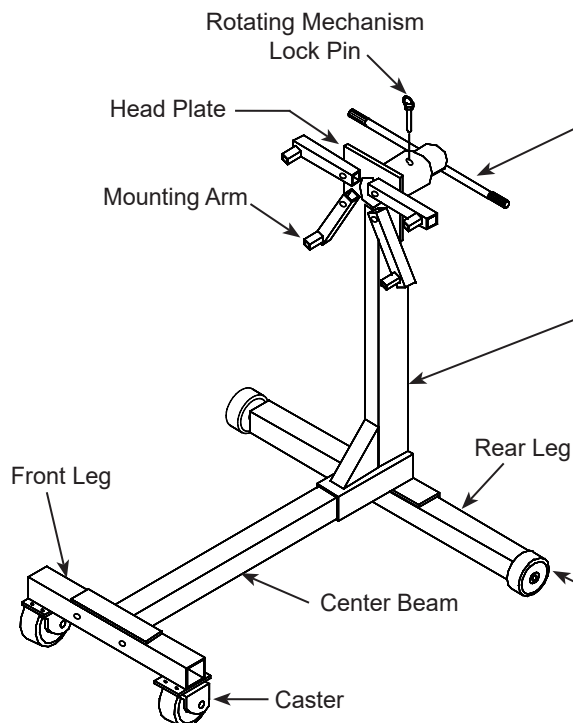

Figure 1 - Model BH5105 Components
4. To rotate engine, slowly and carefully release locking mechanism. Use original handle to rotate, then secure by engaging locking mechanism (see Fig.1 & 2).